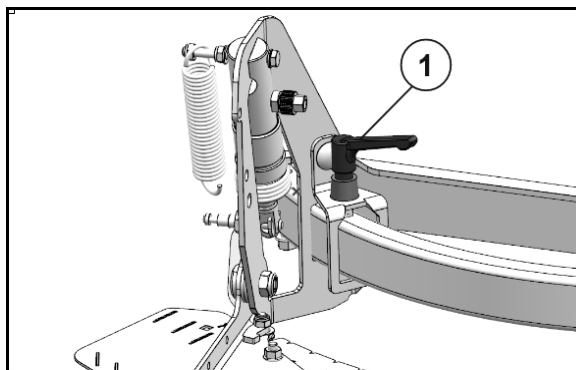

Fig. 67
1. Release the clamping lever (Fig. 67/1) for this purpose.